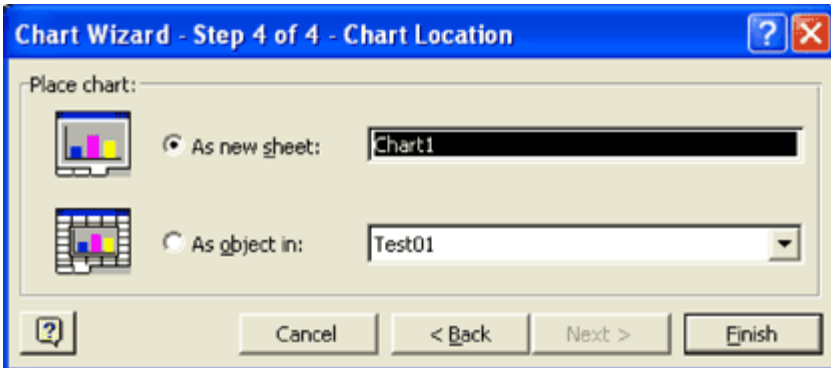

Figure 15. You finish your chart by selecting where to place the graph in a spreadsheet.
- The final step (Step 4) in the Chart Wizard sets the placement of the graph in the spreadsheet (Figure 15).